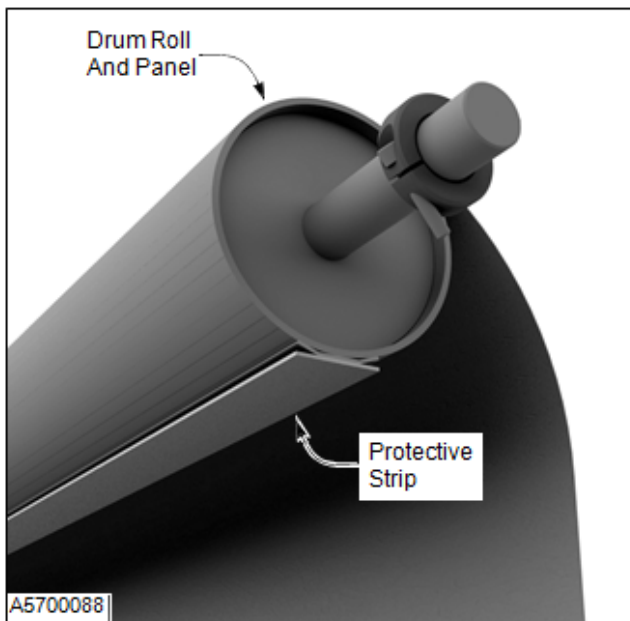

Figure 48
6. Remove the protective strip covering the hardware and clamp bar. (See Figure 48)